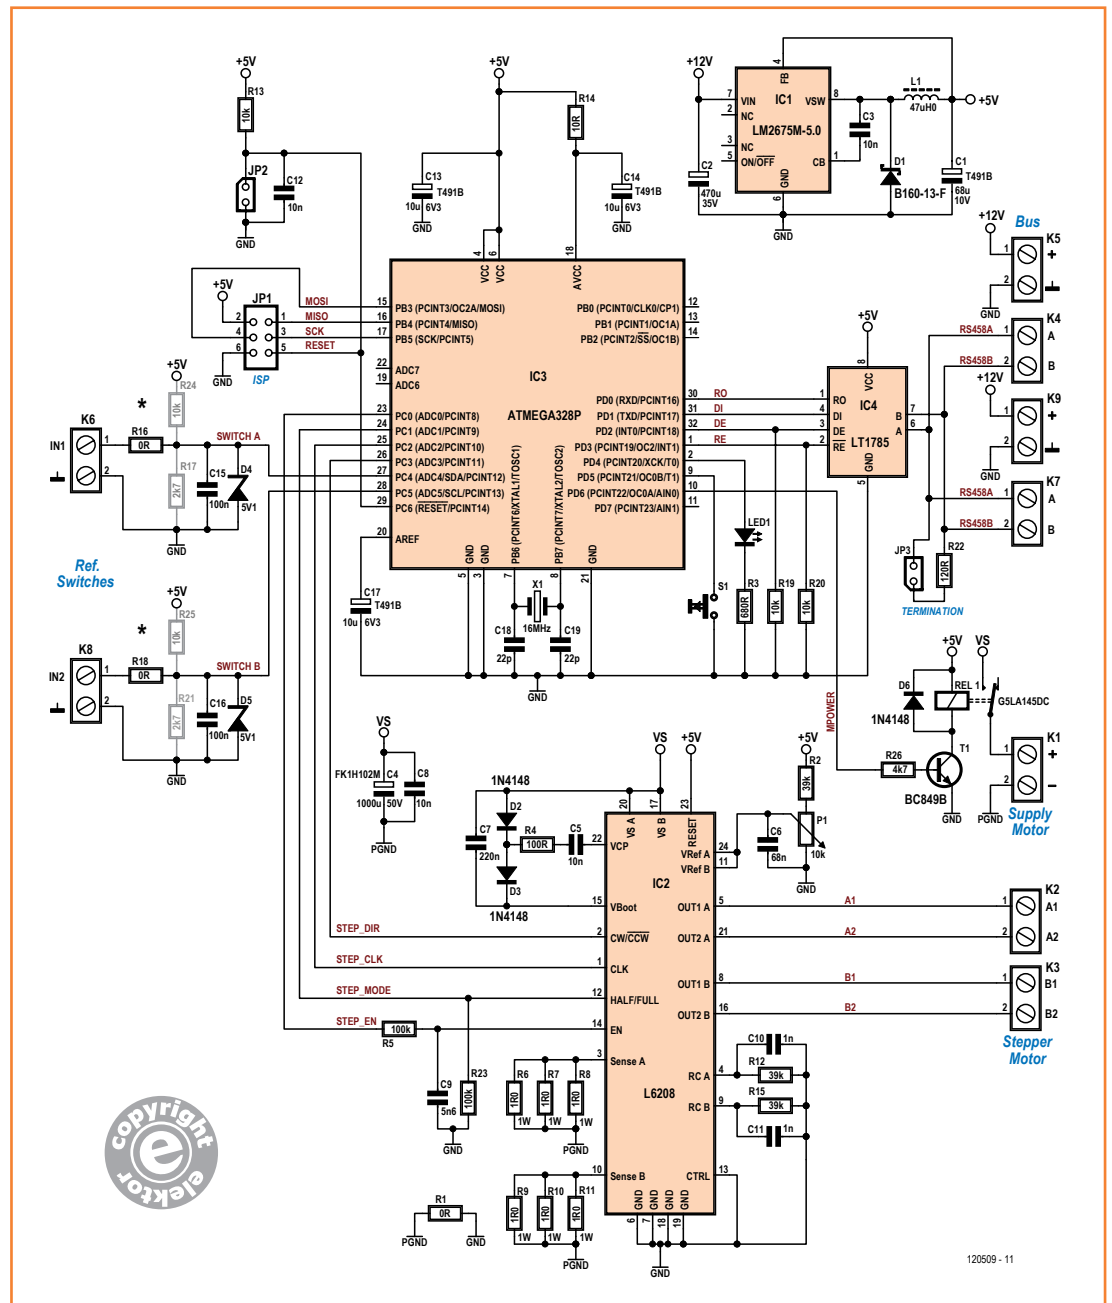

Figure 3. Circuit diagram of the stepper motor board. See the box for the possible position detection switch configurations.
the motor windings, and an over-current detection circuit. It is therefore an easy device to use: we simply need to provide four digital control signals, for rotation direction (CW/CCW), step (CLK), operating mode (HALF/FULL) and strobe (EN). Because of the device's high level of integration the number of external components is kept to a minimum, as can be seen from the circuit diagram in **Figure 3**. The internal current regulator measures the voltage across resistors R6 to R11 on the two sense inputs to determine the motor winding current; the reference value for the regulator is obtained from the V_{ref} inputs, which in turn comes from trimmer potentiometer P1. With the values given in the circuit diagram the winding current is 100 mA when the reference voltage is set to 33.3 mV. The networks comprising R12 and C10, and R15 and C11, determine the off-time of the power MOSFETs in the bridge driver [3]. The L6208 uses a charge pump to generate the gate voltages needed, which requires external components D2, D3, R4, C5 and C7. R5 and C9 condition the voltage at the enable input.